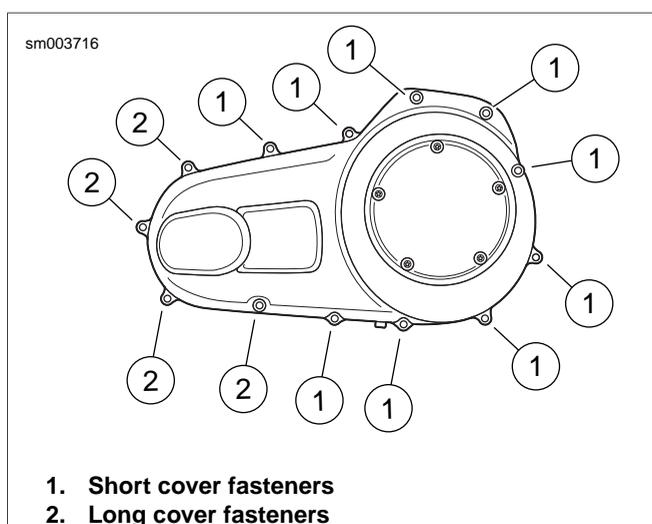

Figure 6-1. Primary Chaincase Cover: Touring Models
6. See Figure 6-1. Remove short (1) and long (2) cover fasteners and cover.
2. See Figure 6-1. Install short (1) and long (2) primary cover fasteners in positions shown. Snug fasteners.